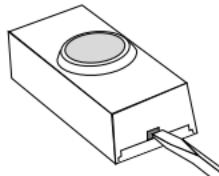

Figure 1
1. **Install alkaline type A23 12 volt push button battery.** Remove back of case by pushing in tab on bottom with a small screwdriver (see Figure 1). Make sure battery is oriented properly (See page 4).